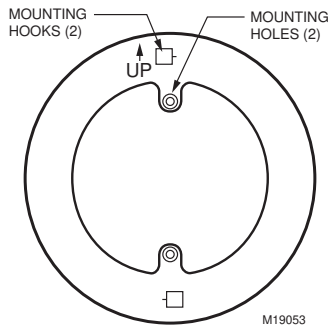

Fig. 4. Installing mounting plate.
4. Attach the mounting plate to the surface, using the screws and anchors provided to secure the mounting plate. See Fig. 4.